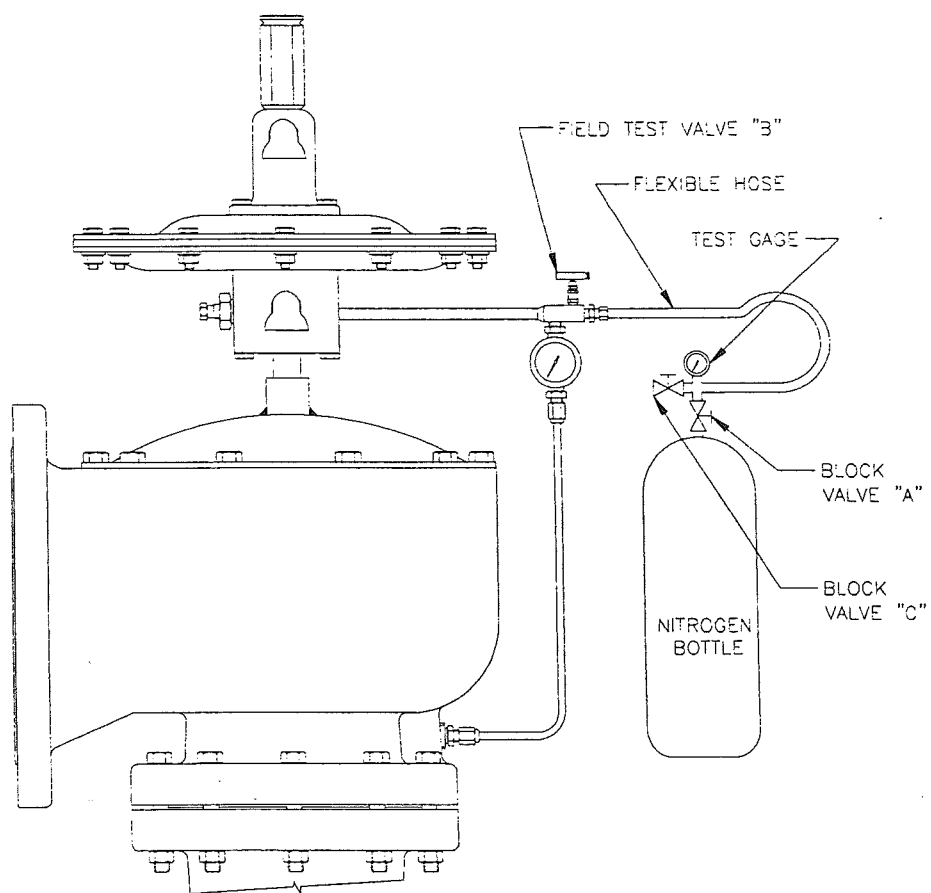

FIGURE 16
1. Connect the gas bottle as shown in Figure 16.